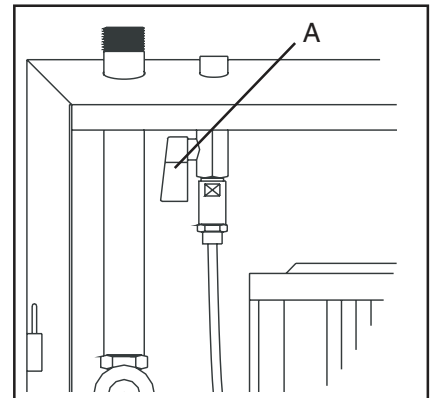

Fig. 17
2. Open the air supply placed inside the main station (see A, fig. 17)
3. Close the air supply (A, fig. 17).